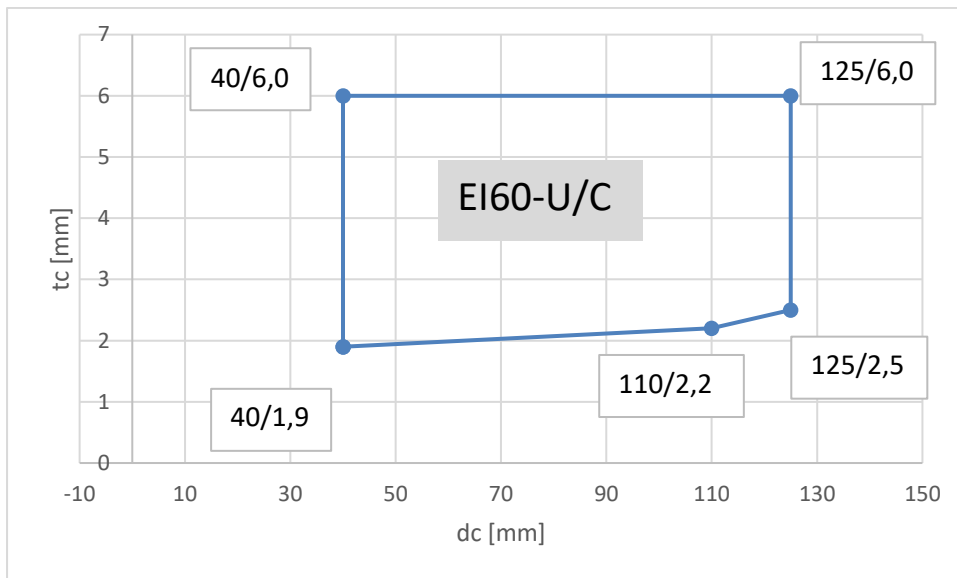

Figure 46: Classified range for PVC-pipes acc. DIN 8061/8062, sealed with CFS-B in CFS-CT HDB
Classification given in Figure 46 is valid for:
- For dimension refer Figure 46